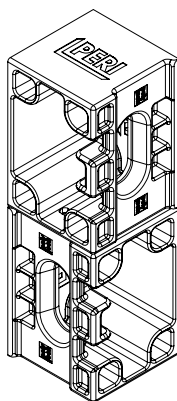

Fig. B5.09a
- Angoli interni, (Fig. B5.09a)